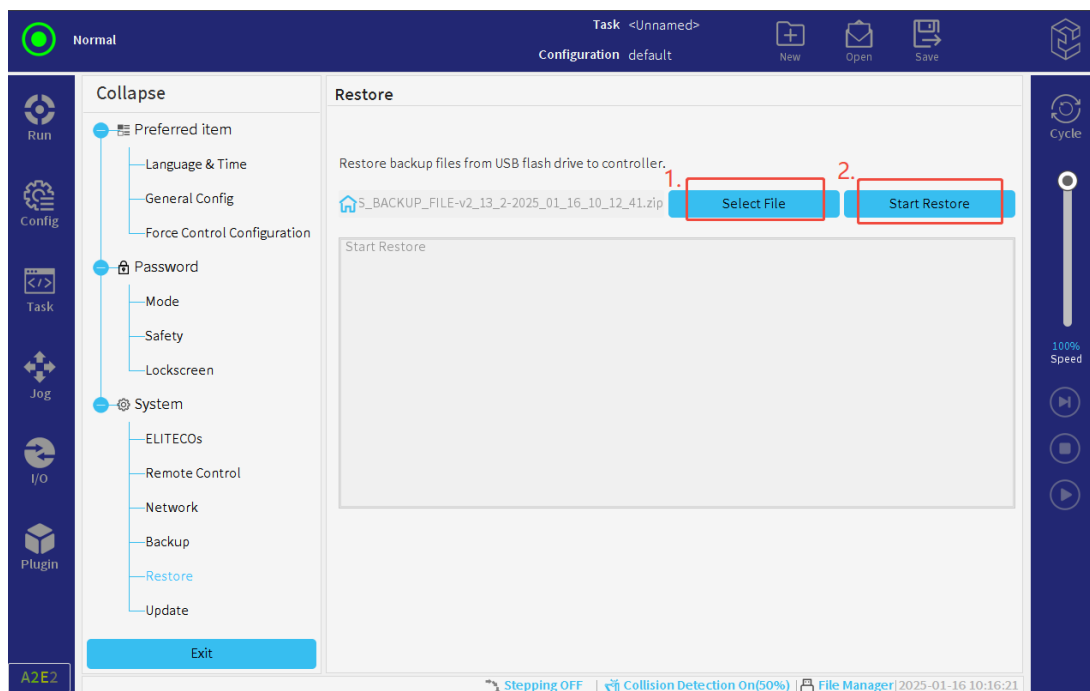

Figure 3-26 : Restore
2. Select "Settings > System > Restore", as shown in **Figure 3-26**.
4. After importing, tap "Start Restore", as illustrated in **Figure 3-26**.